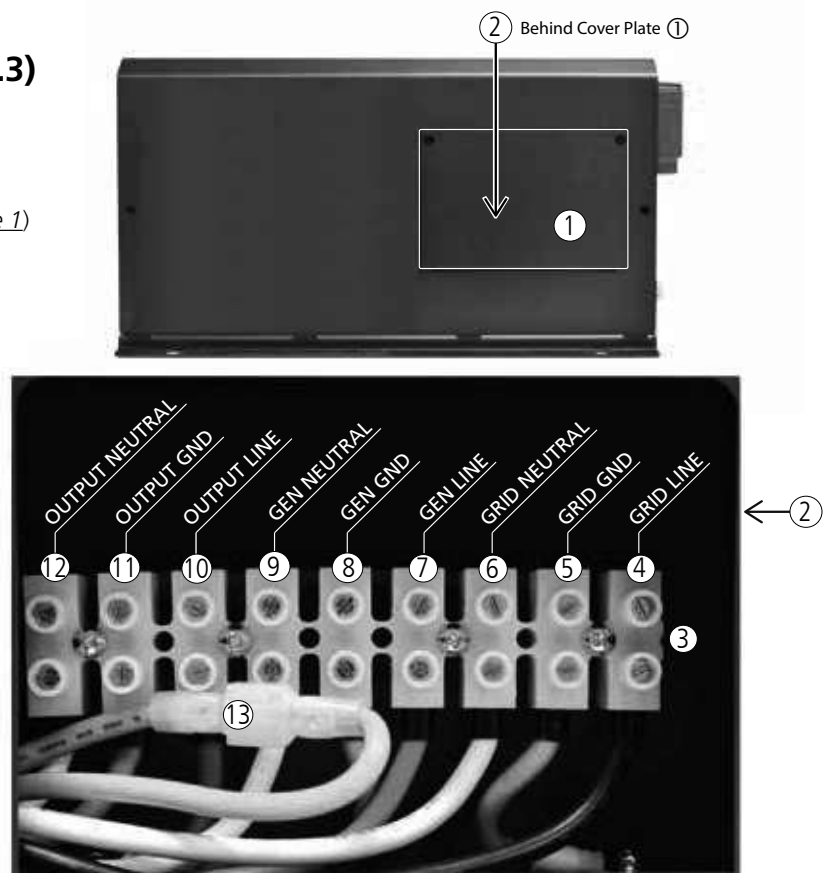

Fig 2.3 Layout-AC Side (Behind Cover Plate 1)
2.3 MAIN UNIT: LAYOUT-AC SIDE (FIG 2.3)
Legend for Fig 2.3